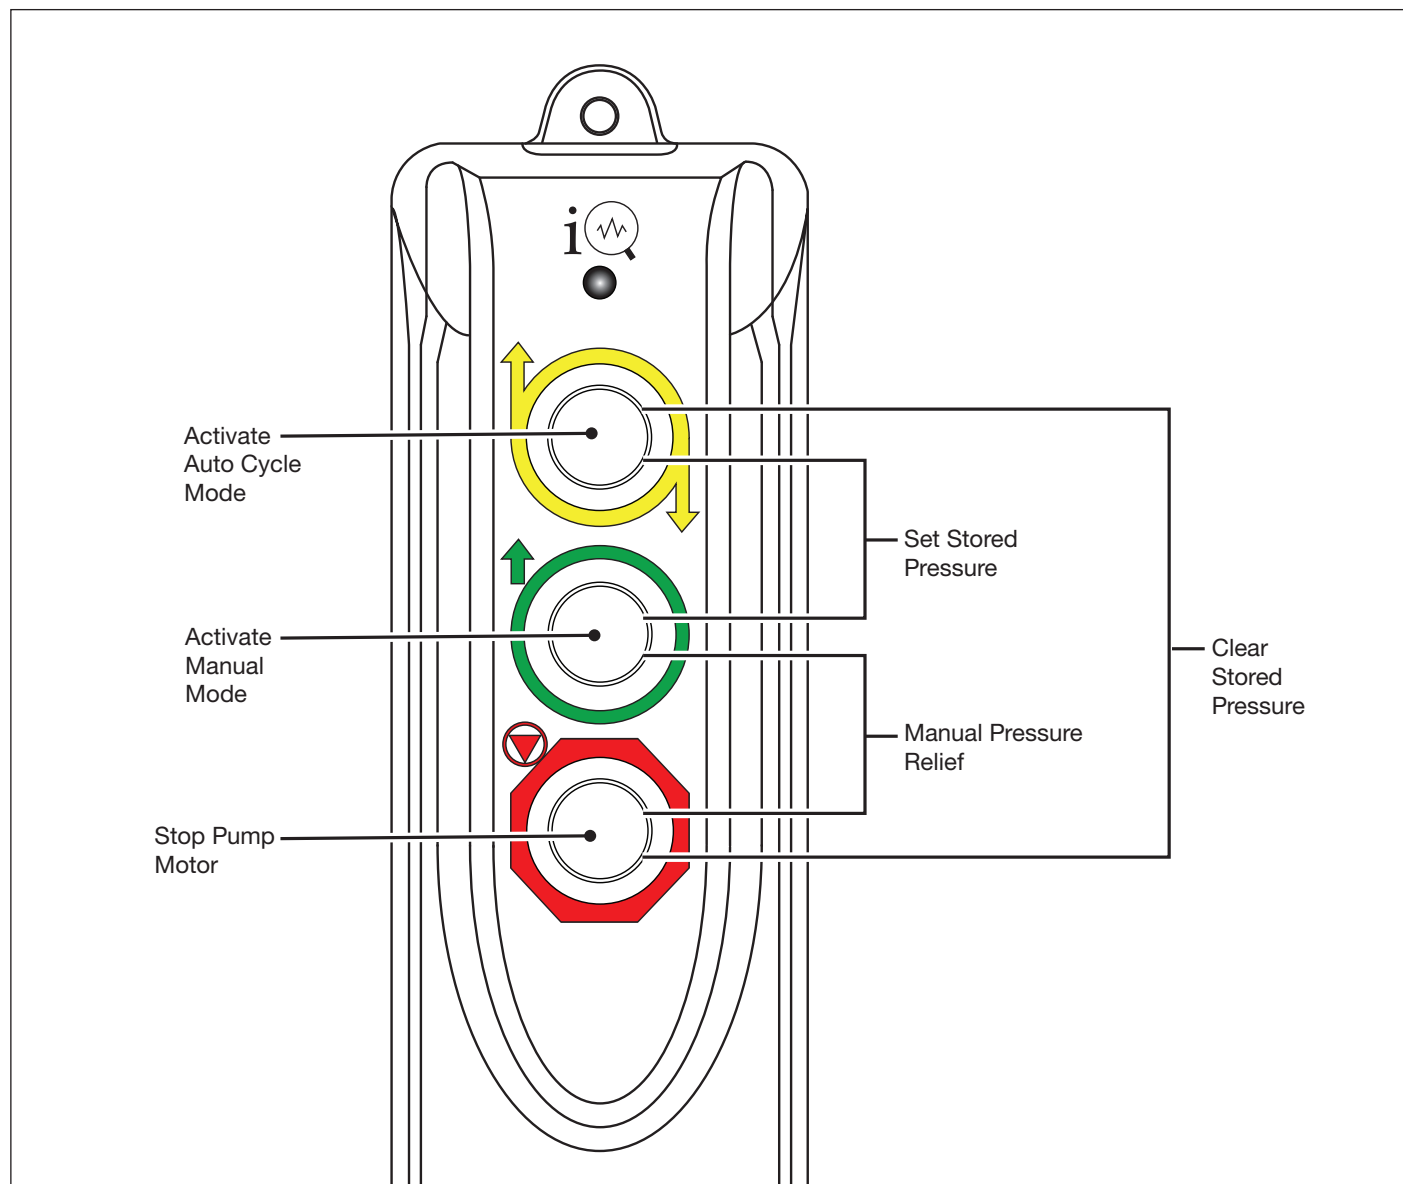

Figure 11, Quick Reference Guide - Pendant Controls
- Refer to Figure 11 for pendant quick reference guide.